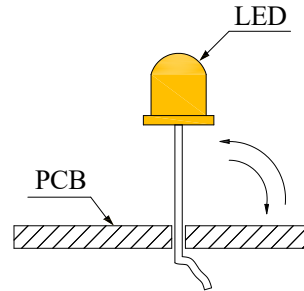

Fig. 8
- 4.5. Do not bend the leads more than twice. (Fig. 8)